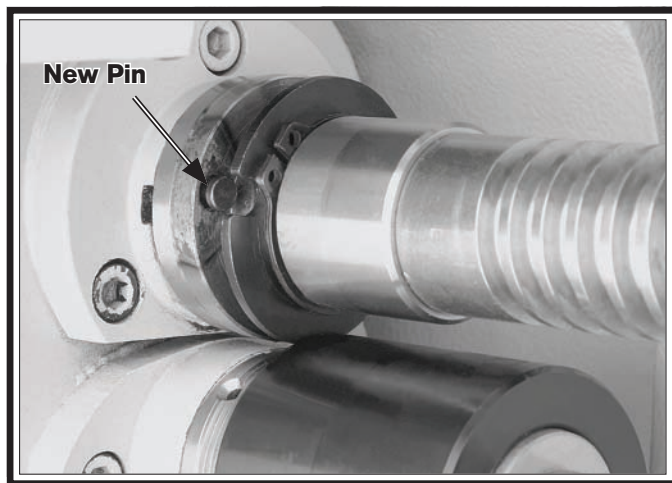

Figure 147. New shear pin installed in bore.
9. Insert the new shear pin into the bore, as shown in **Figure 147**.